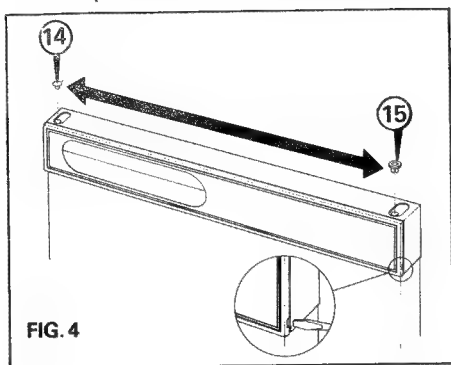
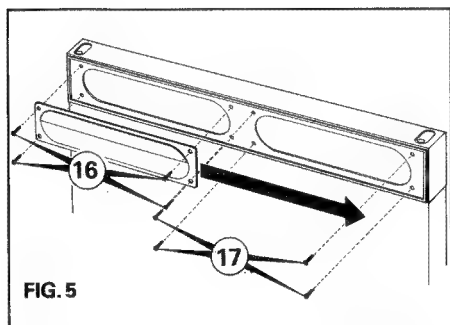

FIG. 4
FIG. 5
5. Transfer the door handles to their new positions as follows (note that figures refer to bottom door, the procedure for transferring the top door handle is identical). Carefully remove hinge plug (14) and hinge bush (15) from both top and bottom of the door and replace on opposite sides. Remove door fascia by inserting a flat screwdriver blade into the end slot and levering off (fig. 4). Remove 4 screws (16) (fig. 5) from handle grip, remove grip and re-insert screws. To fix grip on opposite side, remove 4 screws (17), insert grip and replace screws. Turn fascia around and clip into new position.